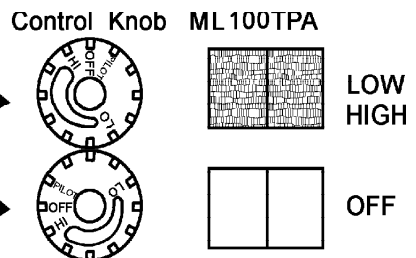

Figure 22 - Burner Patterns
8. Turn control knob counter clockwise ↻ to desired seating level. The main burner should light. Set control knob to any heat level between HI and LO. (see Figure 22)